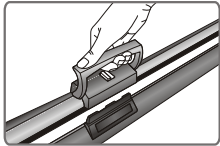

Figure 7
4. Pull up the screen with constant speed and stop at desired position for three minutes so that the screen can be installed ( Figure 7 - 10 ).